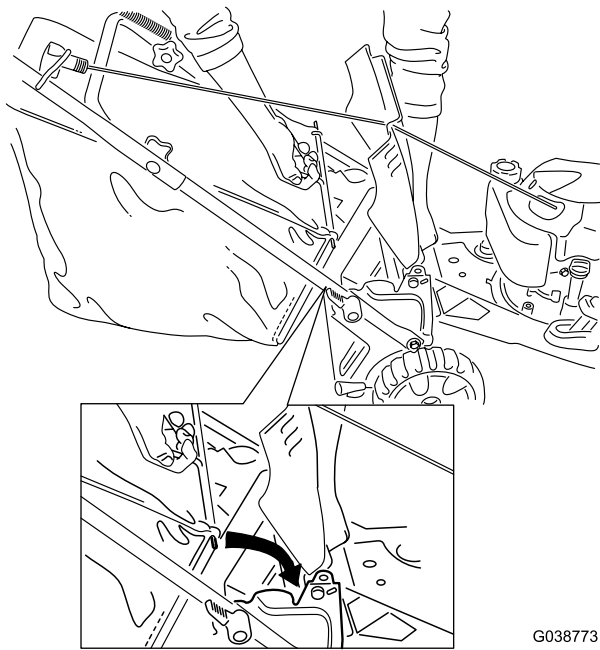

Figure 22
2. Raise and hold up the rear door, install the bag in the notches, and lower the rear door (Figure 22).